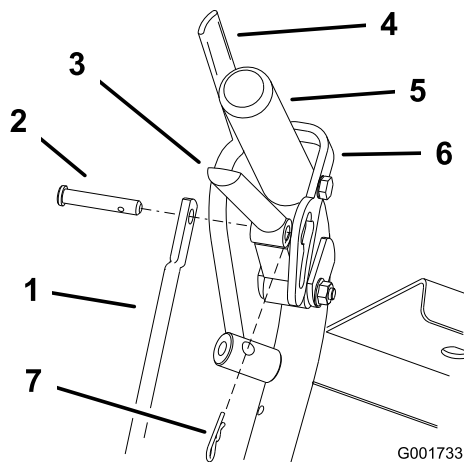
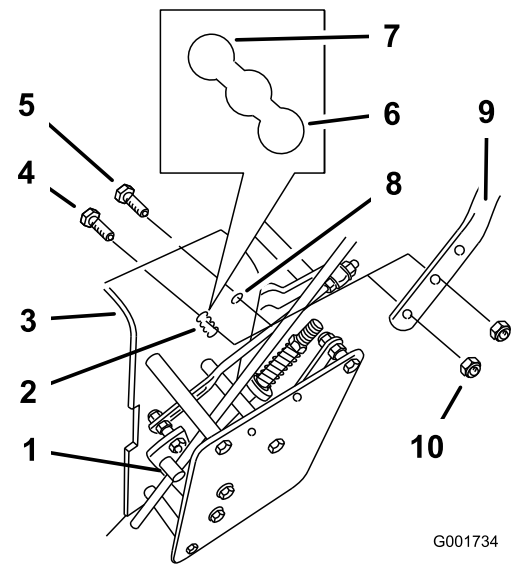

Figure 18
Figure 19
1. Remove the hairpin cotter pins and clevis pins from the drive levers and neutral locks (Figure 18).
2. Loosen the upper flange bolts (3/8 x 1-1/4 inch) and flange nut securing handle to rear frame (Figure 19).
3. Remove the lower flange bolts (3/8 x 1 inch) and flange nuts securing handle to rear frame (Figure 19).
5. Adjust the control rod length by rotating the control rod in the rod fitting (Figure 18 and Figure 19).
6. Install hairpin cotter between drive levers and neutral locks and into clevis pins (Figure 18).